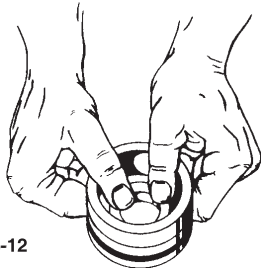

Figure 4-12
20. Install "O" ring or cup elastomer on the seal seat, (#12.5) lubricate the elastomer and carefully press the seat into the seal cups. (#2)(refer to figure 4-12) A clean soft material should be used between the seal face and pressing tools. The smoothest side of the seat should face up. Caution: Dirt and scratches can quickly ruin seals. Place an "O" ring (#6) into the groove around each seal cup.